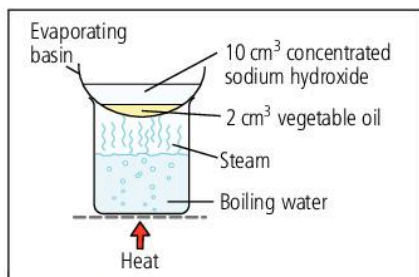

Figure 14.1.3 The first stage in making soap
- 1 Heat a fat or oil with concentrated sodium hydroxide in steam (from a steam bath) for 15 minutes (see Figure 14.1.3).